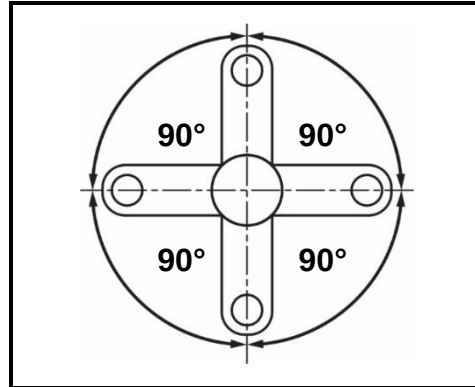

FIGURE 6.6.1
- 6.6 The position of the crank pins in different four-stroke in-line engines are shown in FIGURES 6.6.1 to 6.6.3 below. Identify the number of cylinders for EACH of the crank pin positions below.